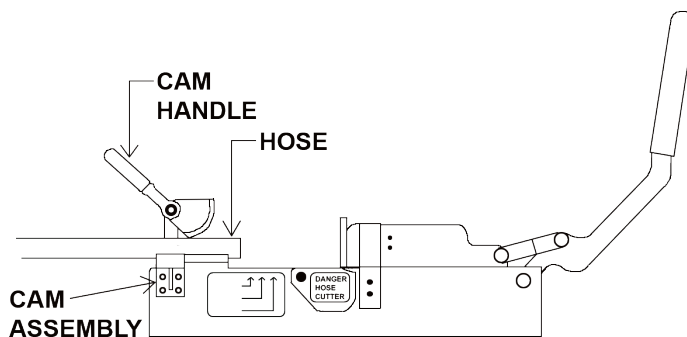

Figure 2
3. Push cam handle forward, locking the hose in place. (Fig. 2)